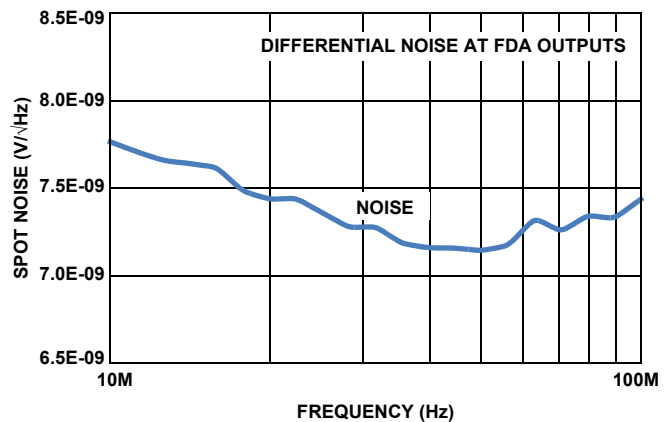

FIGURE 8. MEASURED OUTPUT NOISE FOR THE CIRCUIT OF FIGURE 4
The Noise Figure (NF) in this relatively low gain setting calculates to approximately 7dB. This low NF is depending on the low 0.85nV/√Hz differential input spot noise for the ISL55210 and the reduced resistor values enabled by this active input match capability. Going to higher gain settings will reduce the input NF where for gains > 22 dB it drops below 6dB; a remarkable number for a 115mW amplifier. These numbers are from an analysis using only the differential path noise numbers. Since this topology will also have a common mode noise component, the measured NF will be slightly higher due to component mismatches converting a small portion of the common mode noise to differential. Measuring the spot output noise for the default configuration of the active balun board with a 50Ω termination on the input and referring that measurement to the FDA differential output pins gives the plot of Figure 8.